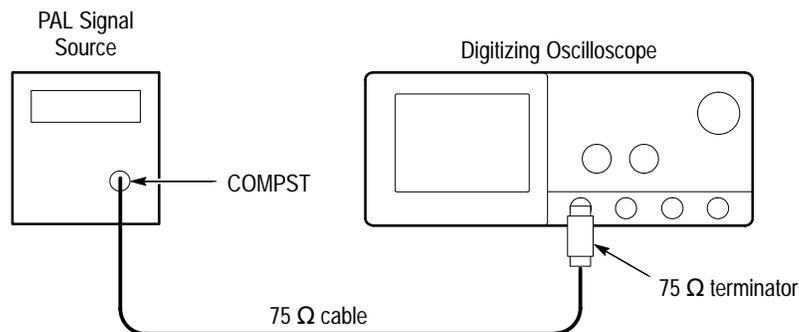

Figure 4–26: Jitter test hookup
- a. Set up equipment for Jitter Test. See Figure 4–26.
- b. CHECK that the oscilloscope lights up its front panel **TRIG'D** LED and it displays the waveform on screen. See Figure 4–27.